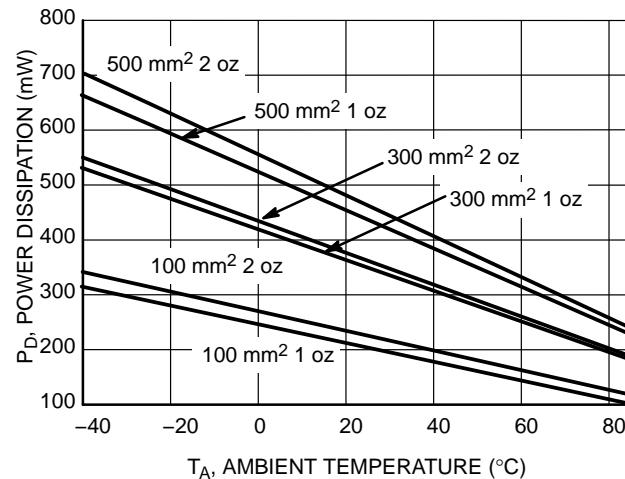
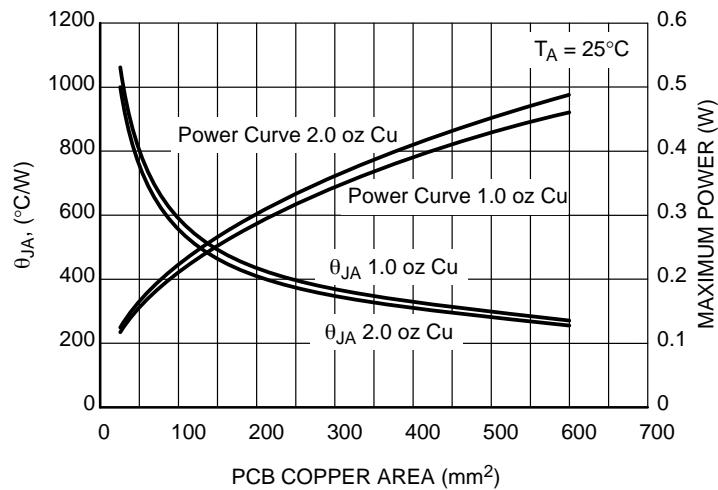

Figure 1. Power Dissipation vs. Ambient Temperature (SOD-123) @ $T_J = 150^\circ\text{C}$ for Variable Copper Heat Spreader
Figure 2. SOD-123 NSI14030T1G θ_{JA} and P_D vs. Cu Area
Figure 1 shows power dissipation over changes in ambient temperature for the SOD-123 package. Figure 2 shows θ_{JA} ($^{\circ}$ C/W) and P_D (W) for various Cu areas and thicknesses. These tables and graphs illustrate the effect of Cu area, thickness and ambient temperature (T_A) over the range of -40° C to 85° C, which encompasses the area of interest for LED operation. LED data sheets show an extreme reduction in luminosity above 85° C T_A .
Figures 2 and 4 can be used to quickly determine which package and heat sink is a good candidate for the application.
For an ambient temperature of 85°C, from the P_D curves of Figures 1 and 3 a SOD-123 with 500 mm² 1 oz Cu would suffice. A SOT-223 with 100 mm² 1 oz Cu would also work.